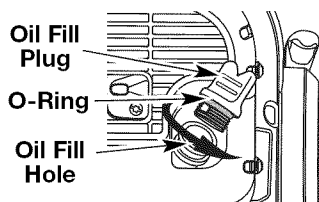

Fig. 8
3. Remove the oil fill plug from the crankcase (Fig. 8).